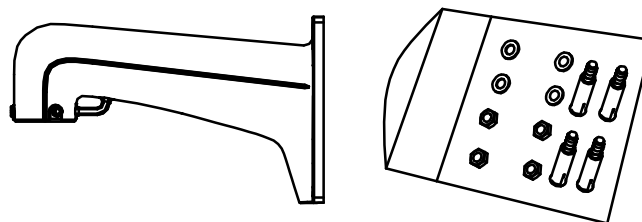

Figure 2-4 Wall Mounting Bracket
- The bracket in Figure 2-4 is the recommended bracket for this series of speed dome, and a pendant adapter is required if any other bracket is selected. The dimension of pendant adapter is $G1\frac{1}{2}$.
- 1) Get the bracket and screws from the packing box as shown in Figure 2-4.
- The bracket in Figure 2-4 is the recommended bracket for this series of speed dome, and a pendent adapter is required if any other bracket is selected. The dimension of pendant adapter is $G1\frac{1}{2}$.